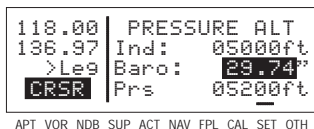

Figure 4-67
3. Use the right outer knob to move the cursor to the **Baro:** field, and then use the right inner knob to enter the current altimeter setting (figure 4-67). The pressure altitude (**Prs**) is now displayed.